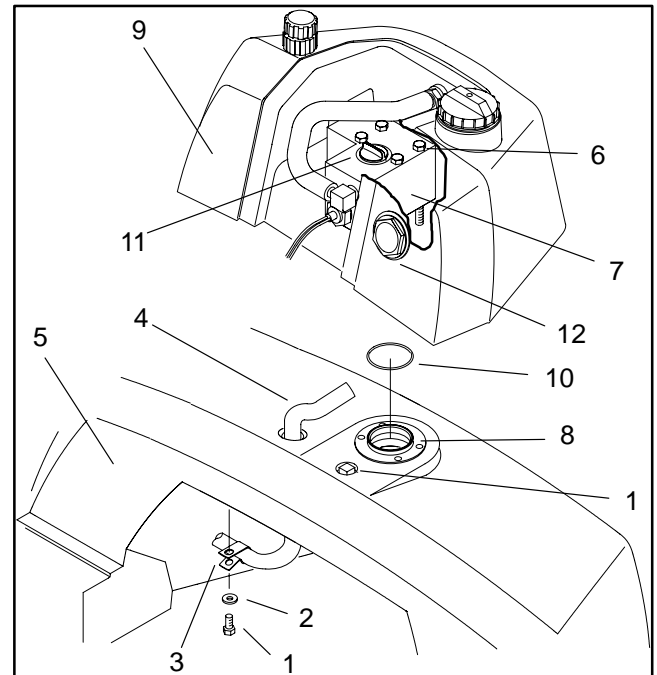

Figure 91
5. Remove cap screw and flat washer securing R-clamp and leak detector harness to the underside of the hydraulic tank. Pull clamp free of harness (Fig. 91).
7. Loosen four cap screws securing the valve assembly to the fill neck on the hydraulic tank. Lift leak detection tank from the hydraulic tank. Remove O-ring from fill neck boss (Fig. 91).
4. Clean mating surfaces of block and fill neck with a clean, dry rag. Carefully place new O-ring over fill neck boss (Fig. 91).
5. Route wire harness through access hole in hydraulic tank. Align valve assembly with fill neck. Secure valve to hydraulic tank fill neck with four capscrews (Fig. 91).
7. Remove plug from top of the valve assembly. Carefully fill float cavity to the top of the threads. Replace and tighten fill plug. Clean up any spilled oil (Fig. 91).
10. Secure cover plate and cap tether to the leak detection tank with five cap screws and flat washers (Fig. 91).
11. Fill leak detection tank to the top of sight gauge (Fig. 91).